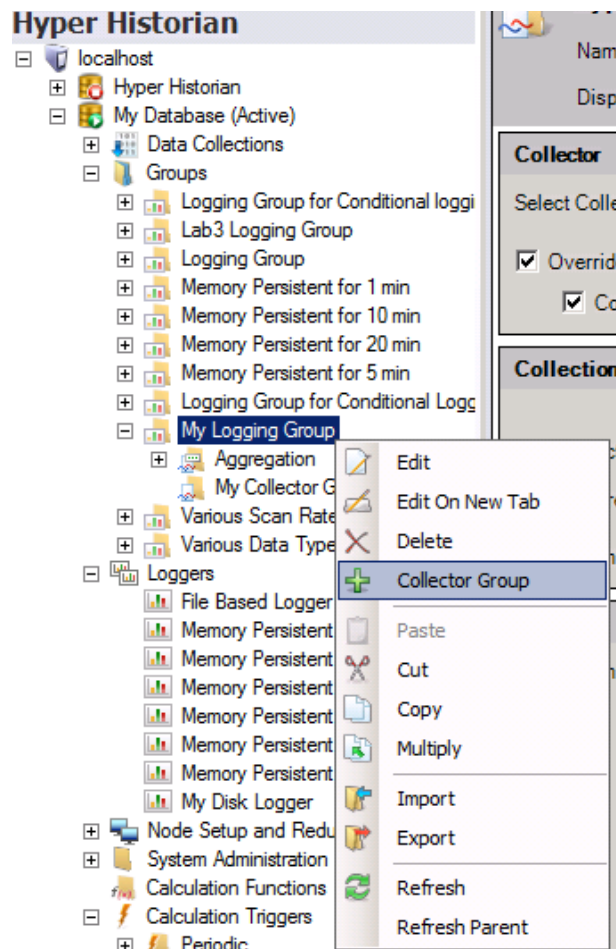

Figure L3.3 - Adding a Collector Group
- Right-click on the new Logging Group and select + **Collector Group**, as shown in Figure L3.3.